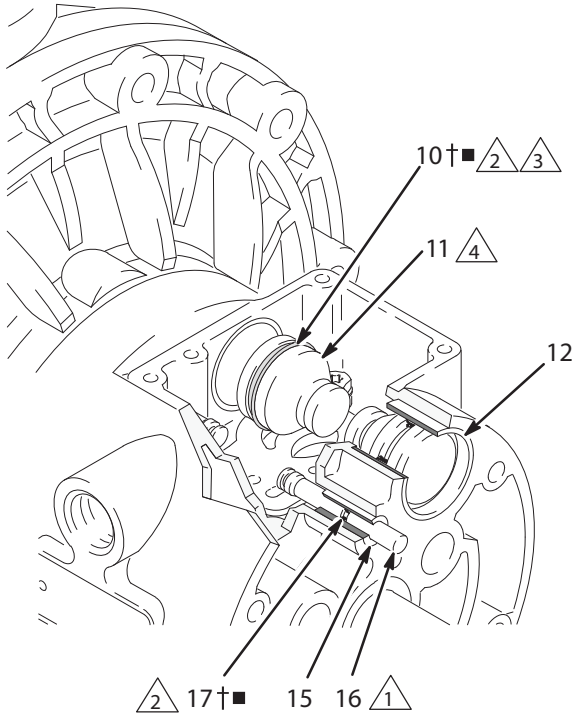

Fig. 9
4. Pull the two actuator pistons (11) out of the bearings (12). Remove the u-cup packings (10†) from the pistons. Pull the pilot pins (16) out of the bearings (15). Remove the O-rings (17) from the pilot pins. See Fig. 9.
6. Inspect the bearings (12, 15) in place. See Fig. 9. The bearings are tapered and, if damaged, must be removed from the outside. This requires disassembly of the fluid section. See page 23.
4. Install an O-ring (17†■) on each pilot pin (16). Grease the pins and O-rings. Insert the pins into the bearings (15), *narrow end first*. See Fig. 9.
5. Install a u-cup packing (10†■) on each actuator piston (11), so the lips of the packings face the *narrow end* of the pistons. See Fig. 9.
6. Lubricate the u-cup packings (10†■) and actuator pistons (11). Insert the actuator pistons in the bearings (12), *wide end first*. Leave the narrow end of the pistons exposed. See Fig. 9.